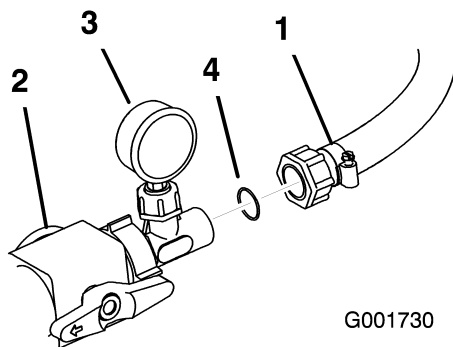

Figure 16
17. Install a plastic O-ring between the pressure gauge assembly and hose leading to the reel assembly. Connect the hose to the assembly (Figure 16). Tighten the plastic nut on the hose to secure it to the pressure gauge assembly.